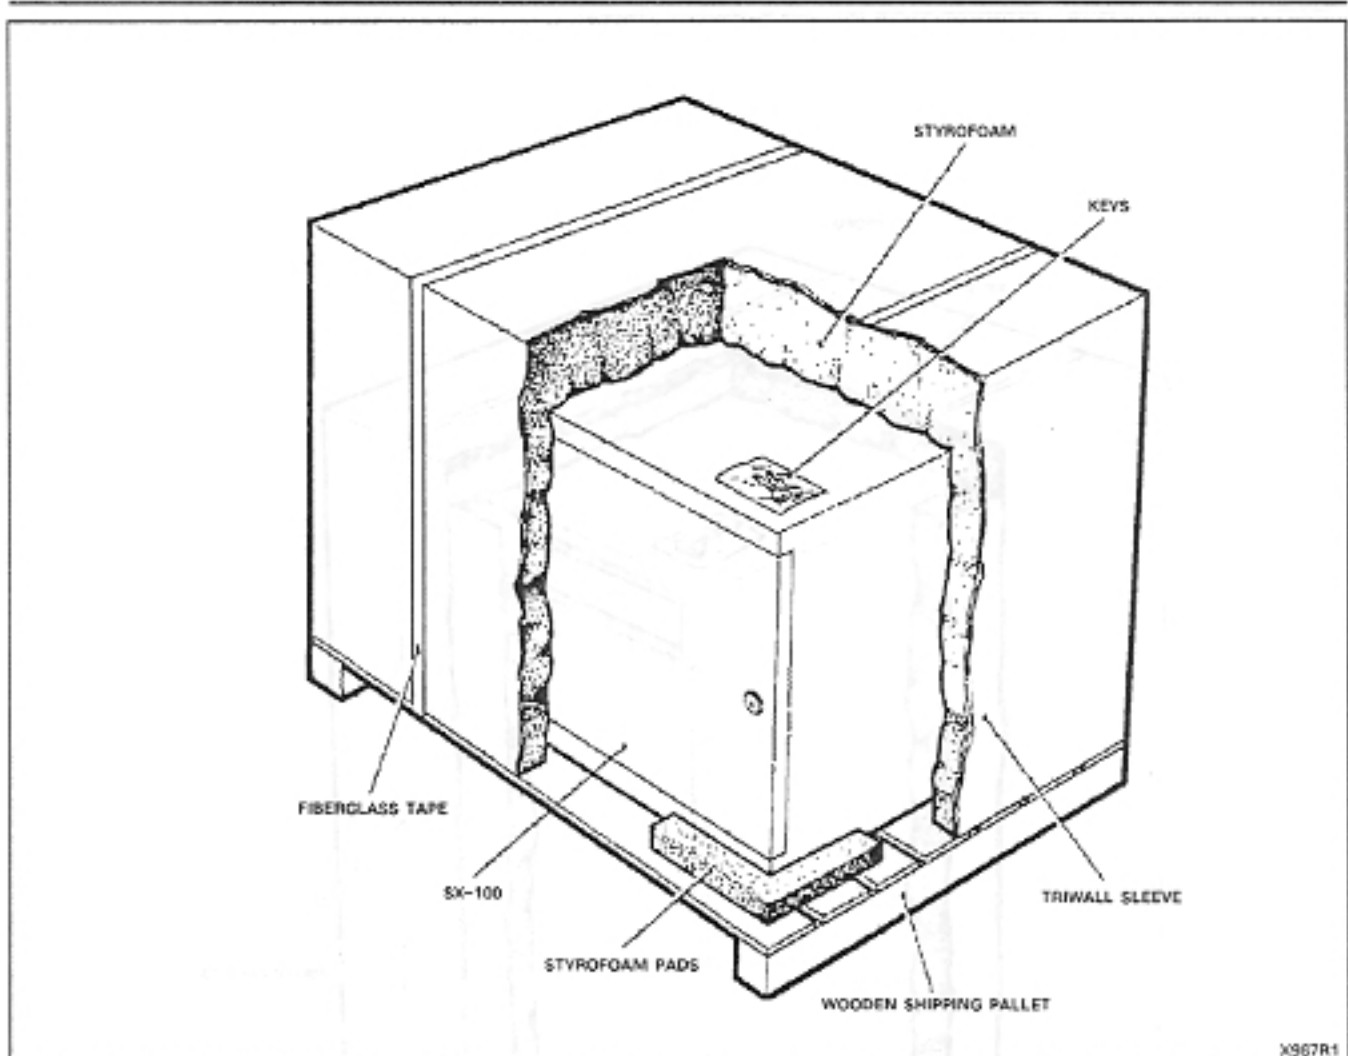

Figure 4-1 SX-100 System Packaging
- 4.01 The equipment is shipped complete with one shelf and with some cards in position. The equipment cabinet is enclosed in a polyethylene sheet and positioned on the shock-absorbant shipping pallet. A styrofoam sheet is placed around and on top of the cabinet to protect it from damage, and the complete assembly encased in a triwall sleeve. Four transportation straps are then fastened to the pallet to prevent any movement of the cabinet package. The tri-wall cap is placed over the sleeve and the complete assembly secured to the shipping pallet by two metal retaining straps. Figure 4-1 and 4-2 respectively show the packaging arrangements for the SX-100 and SX-200.
8.01 When the ACD equipment is shipped from one location to another, all items must be packaged to prevent damage. Figures 4-1 through 4-5 show how the equipment was originally packaged. This method of packaging should be followed as closely as possible.